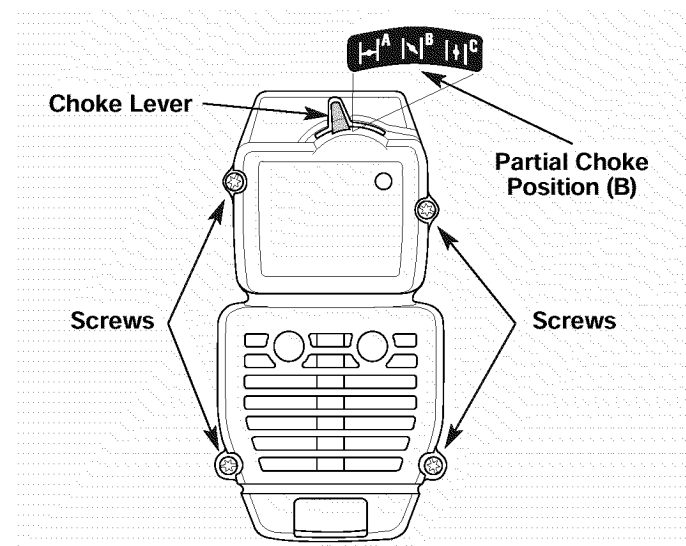

Fig. 27
2. Remove the four (4) screws securing the air filter/muffler cover (Fig. 27). Use a flat blade or T-20 Torx bit screwdriver.
2. Insert the four (4) screws into the holes in the air filter/muffler cover (Fig. 27) and tighten. **Do not over tighten.**